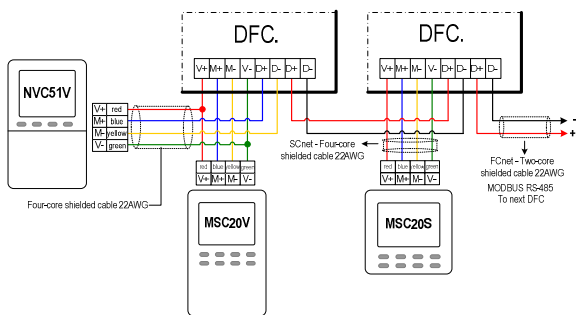

FIG. 1 NVC51V wiring diagram in the FCnet network
- Connect the control panel and fan coil controller by following the pin number and wire color in Figure 1 & 2.